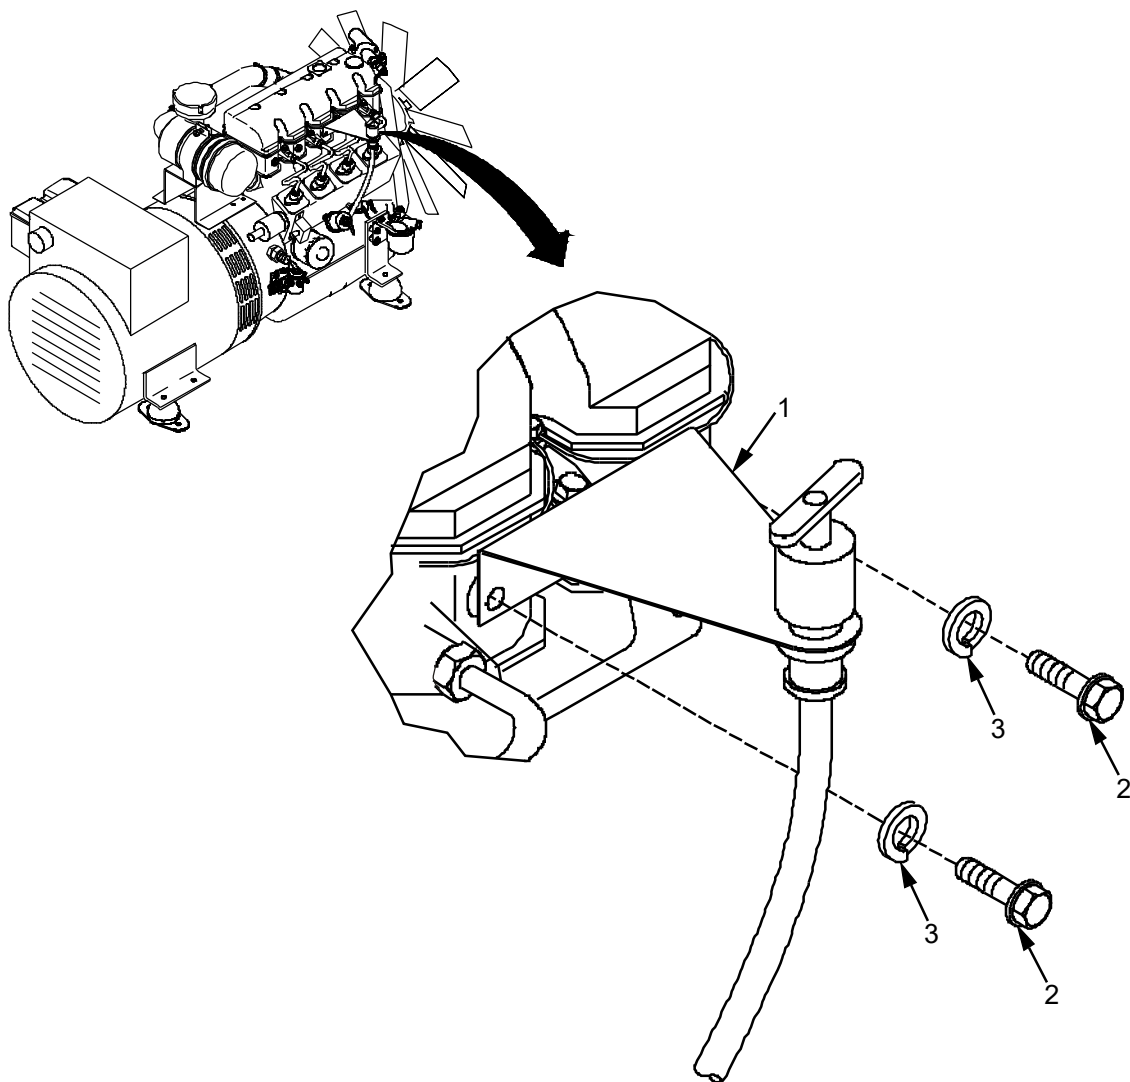

Figure 1. Oil Dipstick Mount.
5. For 2nd cylinder fuel system access, remove two mounting bolts (Figure 1, Item 2) and two lock washers (Figure 1, Item 3) from oil dipstick mount (Figure 1, Item 1). Rotate mount (Figure 1, Item 1) 180 degrees. Discard lock washers (Figure 1, Item 3).
12. If necessary, reattach oil dipstick mount (Figure 1, Item 1) using two mounting bolts (Figure 1, Item 2) and two new lock washers (Figure 1, Item 3). Tighten down mounting bolts (Figure 1, Item 2).